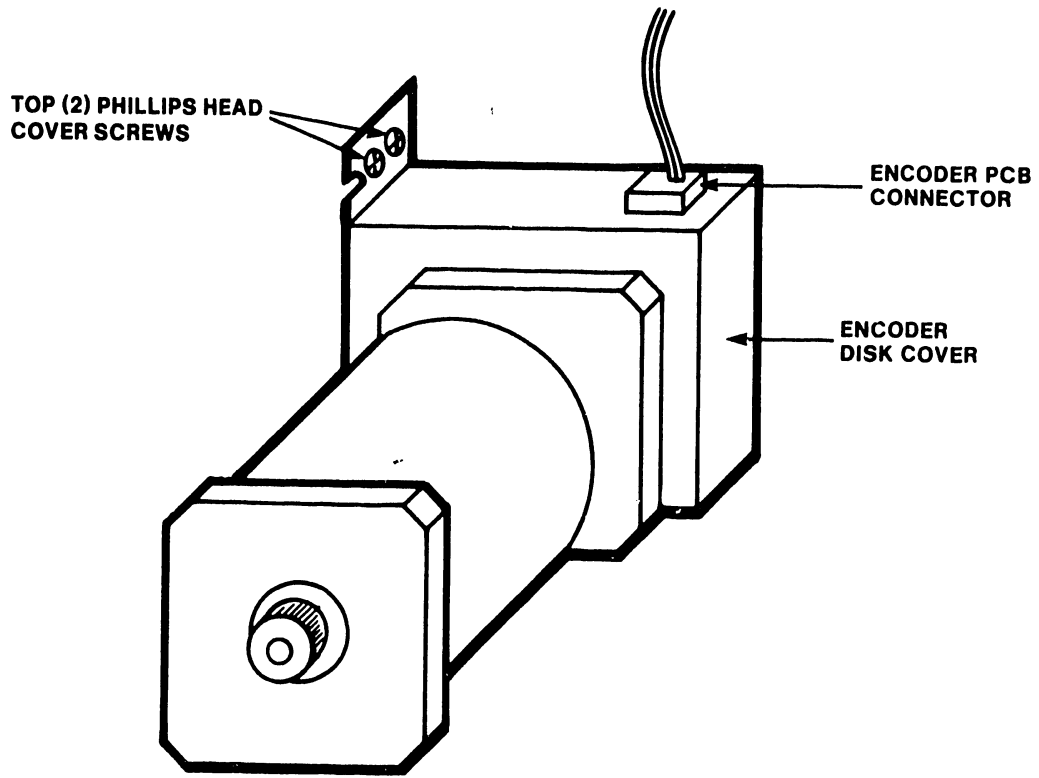

Figure 5-8 Encoder Disk Removal
- a. Unplug the cable at the top of the encoder cover shown in Figure 5-8.
- a. Unplug the cable at the top of the encoder cover illustrated in Figure 5-8.